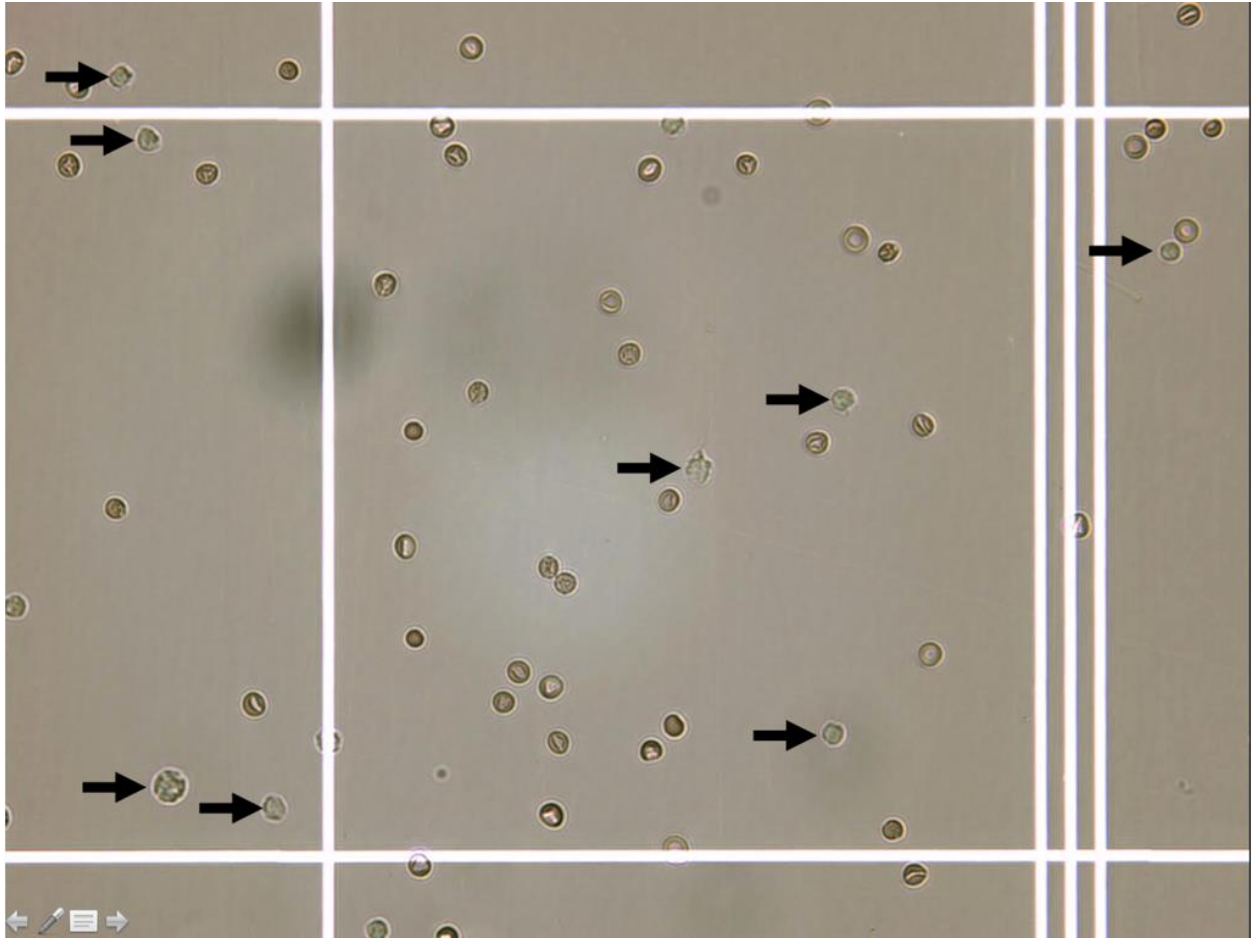

Figure 1: Micrograph of CSF with blood contamination observed with phase contrast microscopy. Leukocytes are marked with arrows.
- Identify erythrocytes as disc-shaped cells without nucleus, whereas leukocytes have inner structures identifiable as nucleus (see Figure 1).